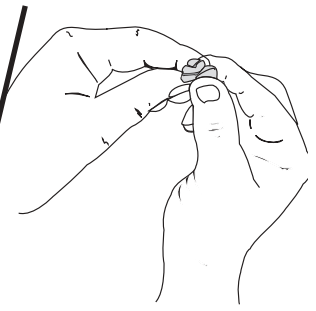

Figure 26
5. Squeeze the filter to spread and remove excess oil. See Figure 26.